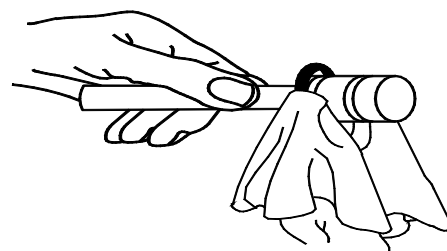

**Fig. 8**
4. Using a brand name anti-bacterial liquid hand dish-washing detergent, make a suitable cleaning solution by adding one (1) to two (2) ounces per gallon of warm water between 100° and 120° F. Fill the machine with the warm detergent and water solution. **DO NOT** use an abrasive detergent on any part of the dispenser.
8. Remove the dasher assembly (Fig. 8) from the freezing cylinder being careful not to damage the scraper blades. Now, disassemble the dasher in the following manner: